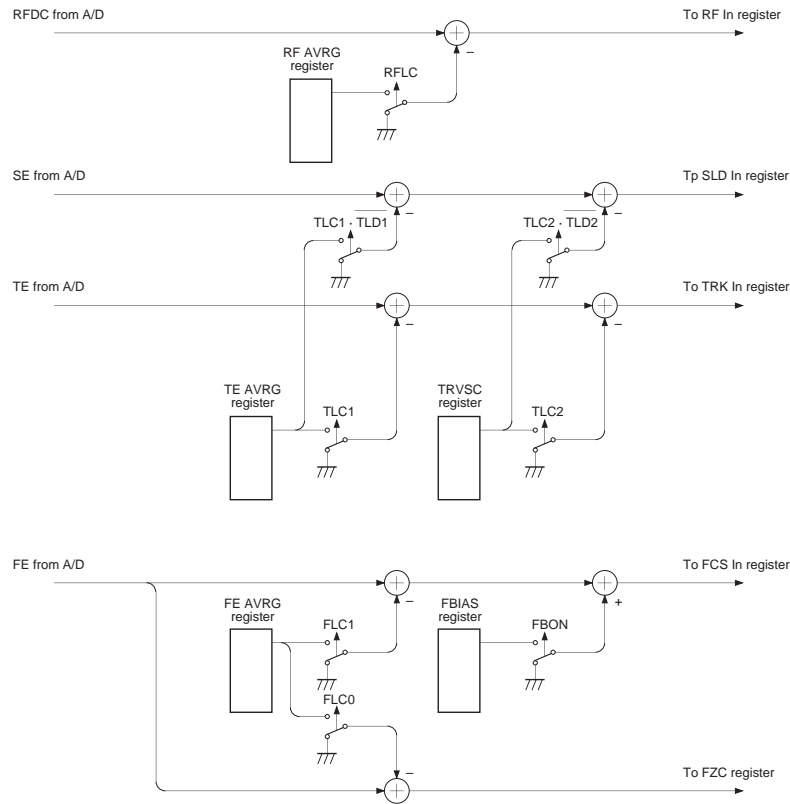

Fig. 5-3a.
Two methods of canceling the DC offset are assumed for the CXD3008Q. These methods are shown in Figs. 5-3a and 5-3b.
- \$38 14 0A (Compensation on [RFLC, FLC0, FLC1, TLC1], corresponds to Fig. 5-3a.)